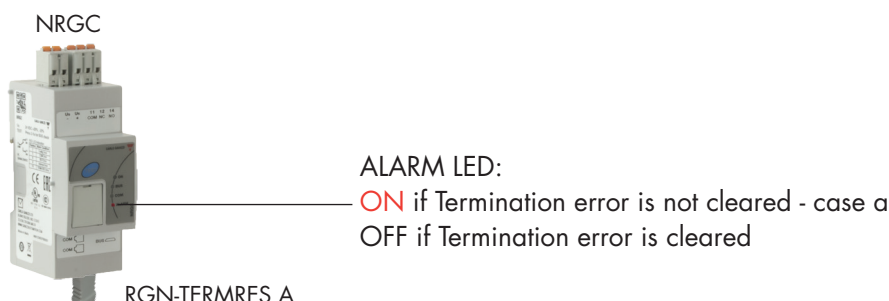

Fig. 7.2: NRGC terminated with RGN-TERMRES A
- Disconnect the BUS chain of RG..Ns from the NRGC. Connect the RGN-TERMRES A directly to the NRGC as shown in figure 7.2